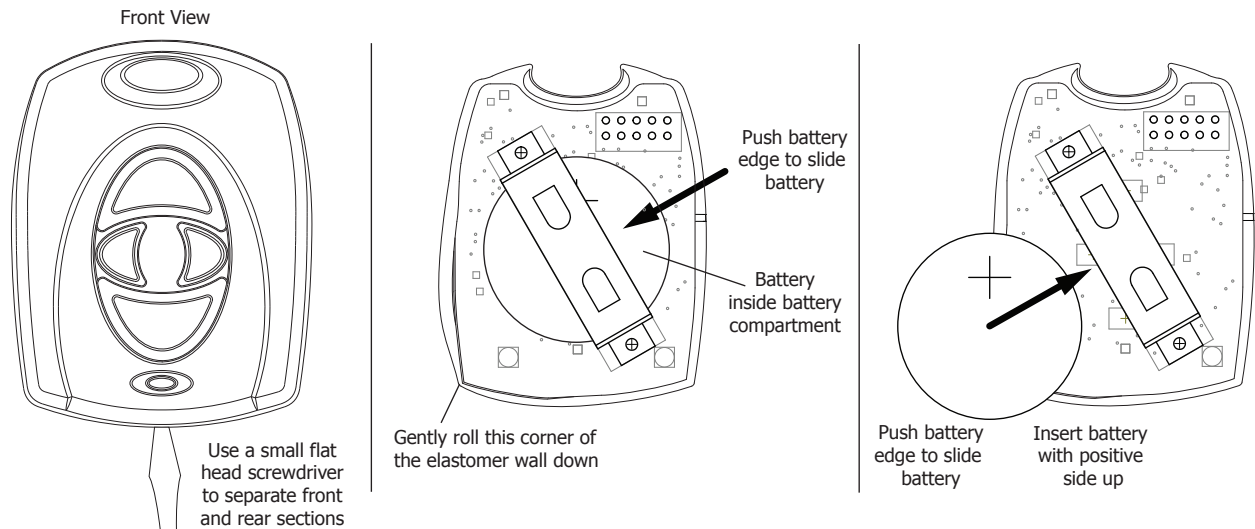

Figure 4: 1100 Series Battery Location
3. Gently roll the corner of the elastomer wall down then push and slide the old battery out of the holder in the direction of the arrow to remove it. See Figure 4.